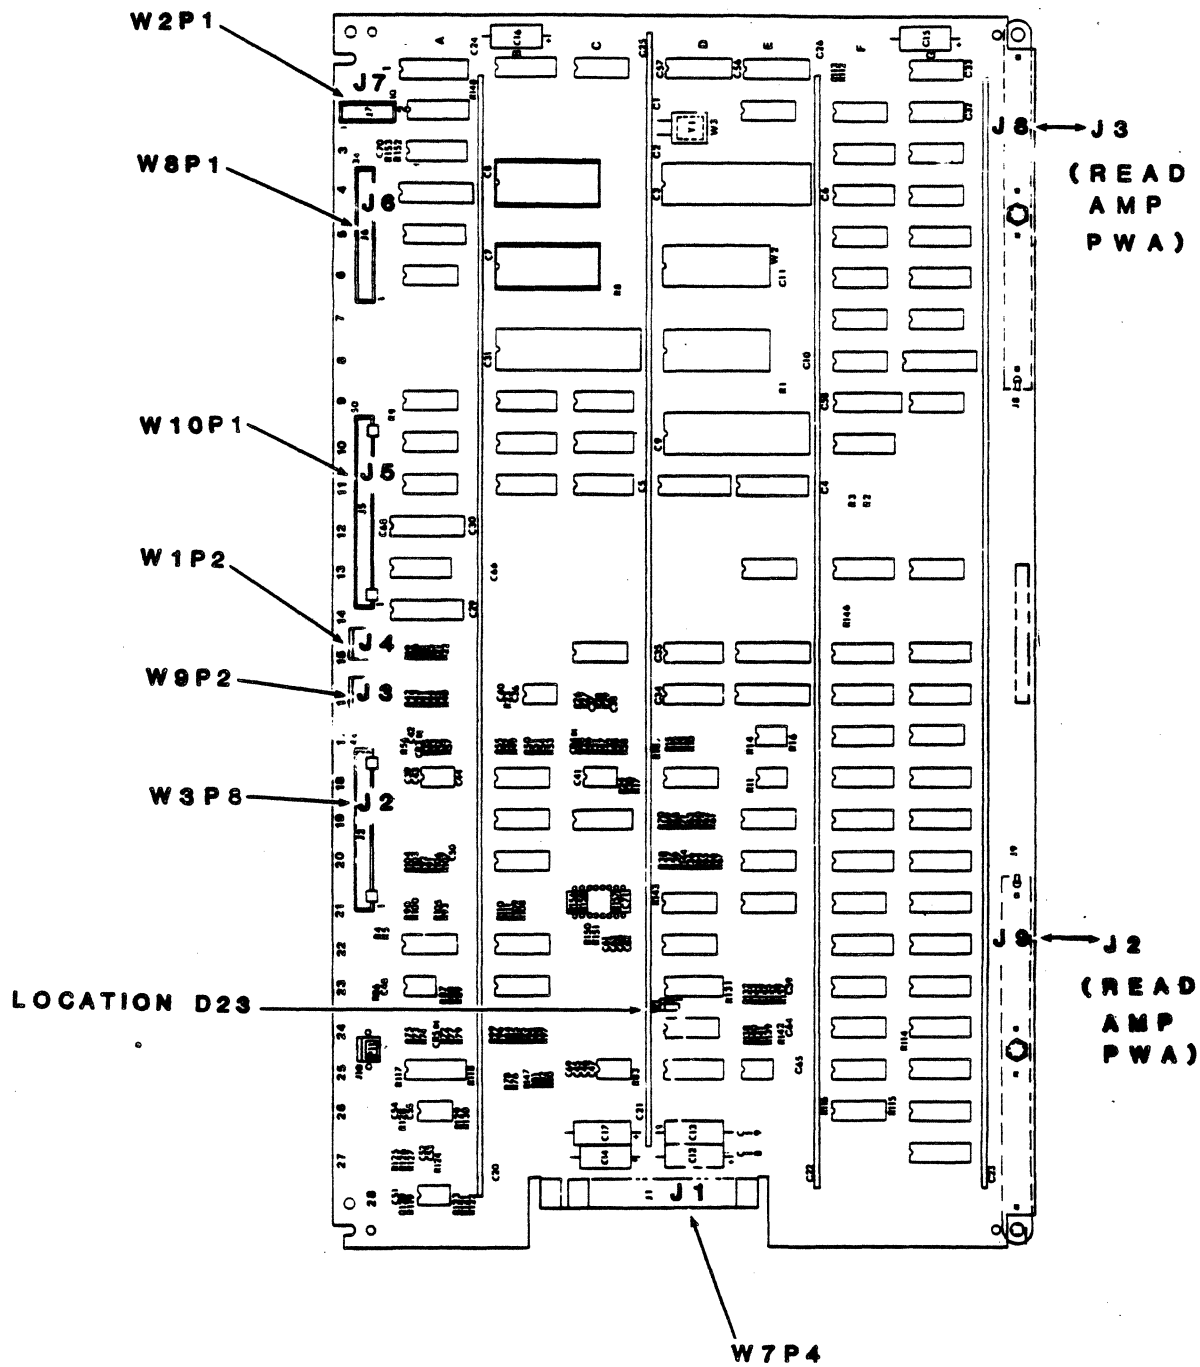

Figure 6-33. Servo-Control PWA Connectors
4. Disconnect connectors W2P1, W8P1, W10P1, W1P2, W9P2, W7P4, and W3P8 from servo-control PWA (see figure 6-33).